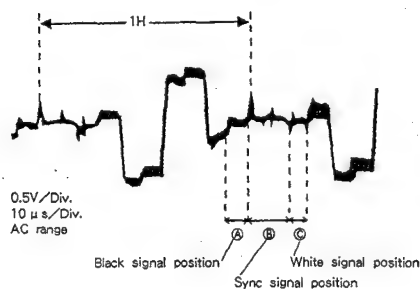

Fig. 3-2
- (1) Receive a SECAM color bar signal.
- (2) Connect an oscilloscope to TP46R.
- (3) R-Y adjustment
Adjust FL302 so the amplitude from black to white in periods ④ and ⑤ is the same as that of the sync signal as shown in Figure 3-2.